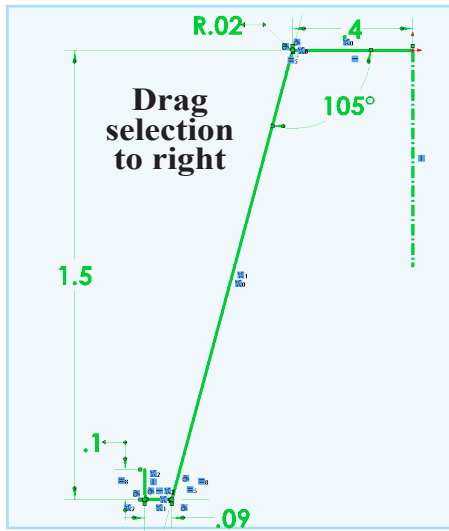

Fig. 8
Step 2. **Drag selection around the sketch** to select all entities, Fig. 8. To drag selection, click above and to left of sketch and drag down and to right to drag around all.